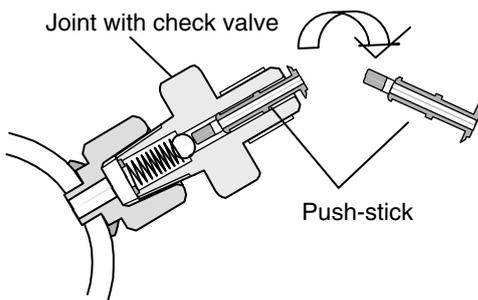

Fig. 2 Do not loss push-stick.
- ※Do not lose push-stick inside the joint. (Fig. 2)
- ※Do not lose push pin inside the joint with check valve. (Fig. 2)
※ Do not lose push-stick inside the joint with check valve. (Fig. 2)